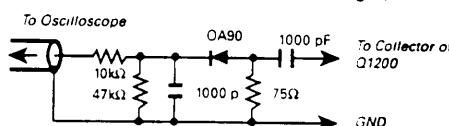

Fig 1.
- 1: Connect sweep generator output to IF in (FA (1)).
- 2: Connect response cable with detector to collector line of Q1200 (See fig 1).